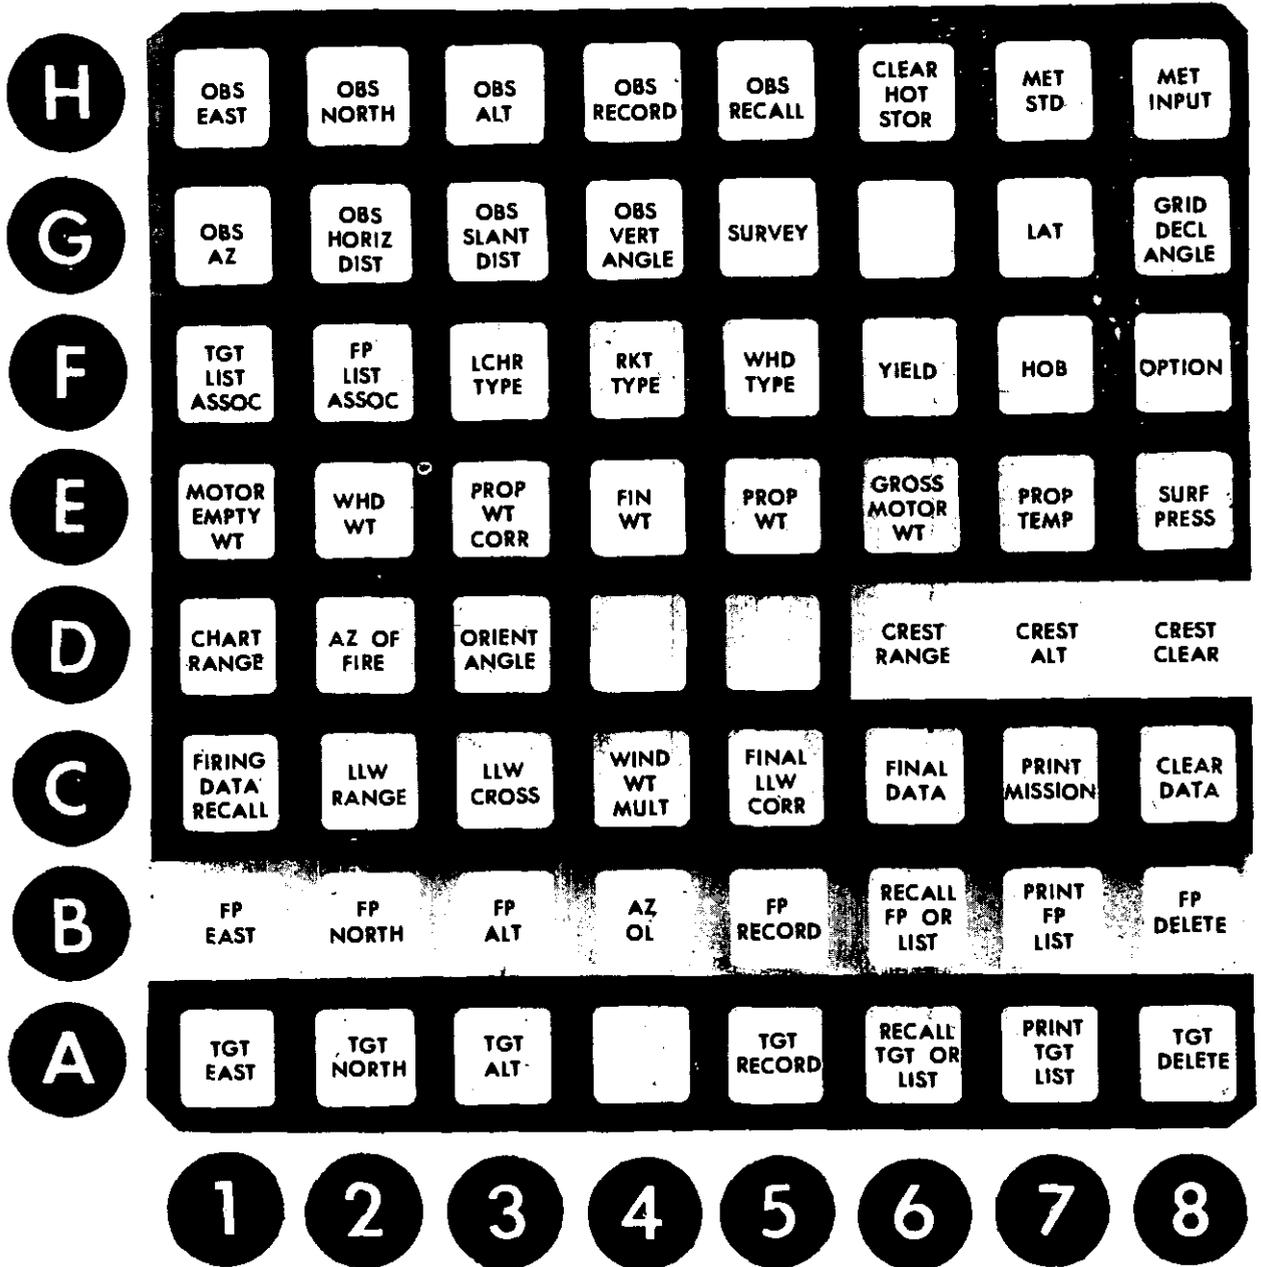

Figure 3. Input selection matrix.
a. The input selection matrix consists of 64 windows. The desired input location on the matrix is selected by depressing two buttons, one numerical button (1-8) in the row below the matrix windows and one lettered button (A-H) in the column on the left side of the matrix. The use of the input selection matrix (fig. 3) is explained in detail for each matrix position in table 1.
- (1) The target information in row A is colored blue.
- (2) The firing point information in row B is colored yellow.
- (3) The information on firing data recall, low-level wind, print mission, and clearance data in row C is colored green.
- (4) Miscellaneous information on the rocket, warhead, ballistic, and orienting data in the left portion of row D and in rows E and F is colored red.
- (5) The crest clearance information in the right portion of row D is colored white.
- (6) The observer and survey information in the left portion of rows G and H is colored gray. One window in row H, CLEAR HOT STORAGE, is colored red.
- (7) The meteorological, latitude, and grid declination information in the right portion of rows G and R is colored green.